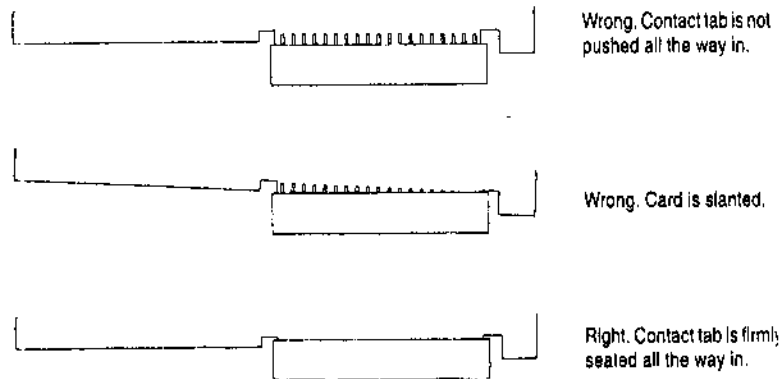

Figure 1-5: Seating the contact tab firmly into the expansion slot.
8. Be absolutely sure that the contact tab of the Express PC card is firmly seated in the expansion slot as shown in Figure 1-5.